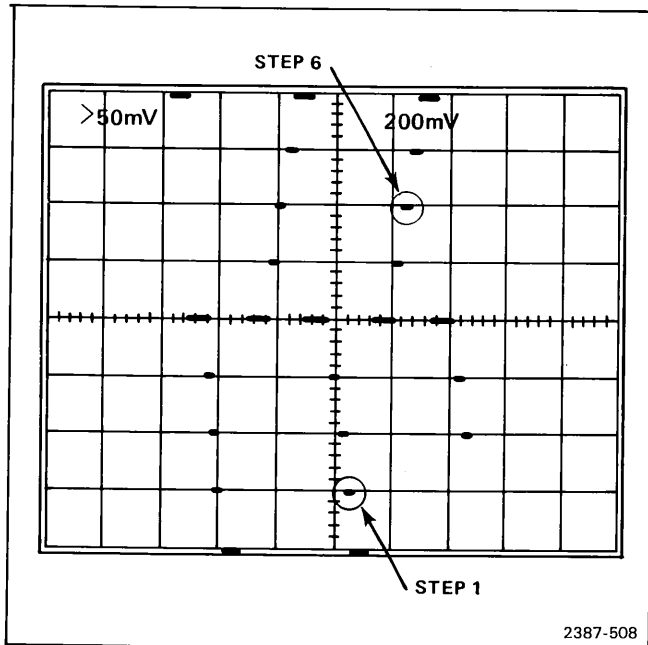

Fig. 5-8. Display of staircase waveform with its top and bottom steps set to the top and bottom graticule lines.
- f. Move the 7A16A Variable Volts/Div control to set the bottom staircase step at the bottom graticule line. See Figure 5-8.
- j. Use the 7A16A Position control to align the first stairstep with the first graticule line (see Fig. 5-8).
- k. **CHECK**—that the sixth step aligns with the sixth graticule line, $+$ or $-$ 0.1 division (see Fig. 5-8).